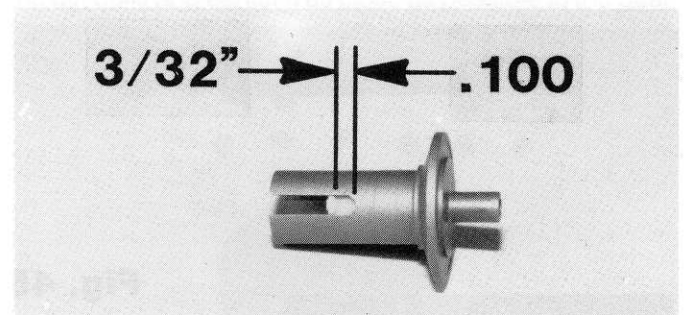

**Fig.40**
□ **Figs. 40 & 41** Using the #6578 left diff outdrive hub again. Remove the #6589 bearing and set it aside for a moment. **Make sure the hub is clean and free from all burrs.** Push the #6582 diff thrust spring into the hub and then align the plastic T-nut with the slots in the hub and push the T-nut all the way in against the spring.